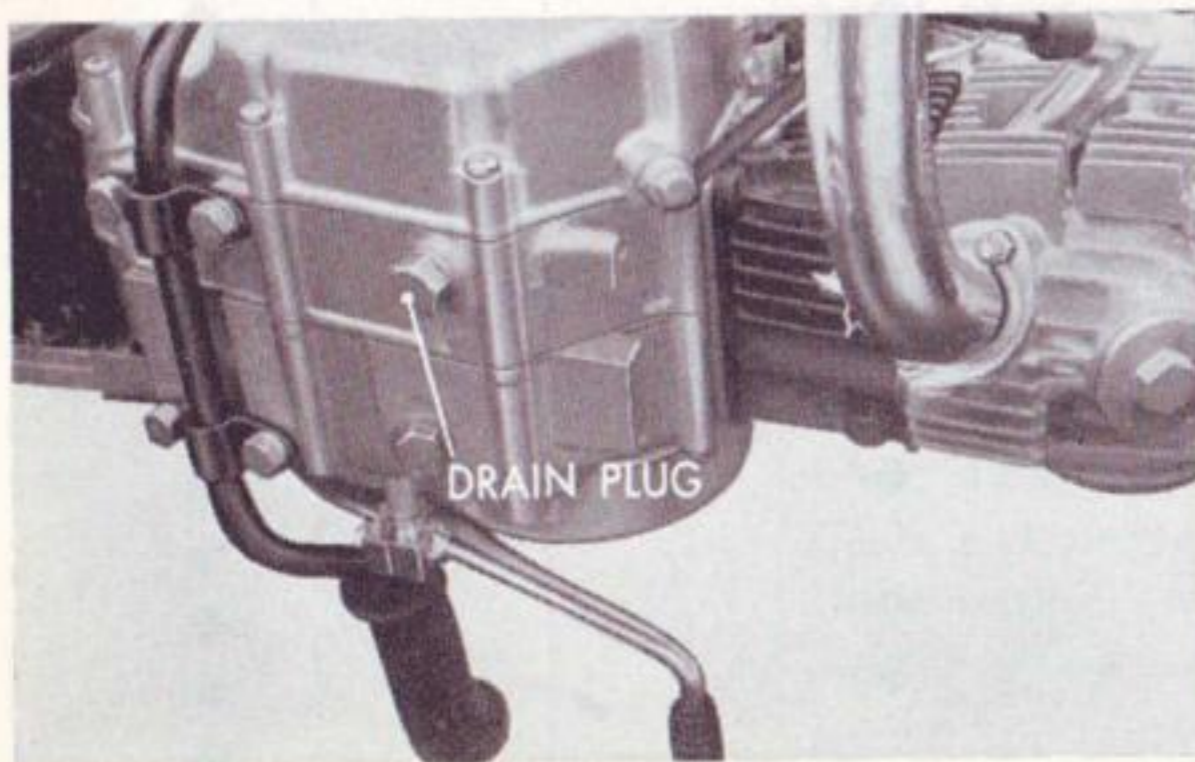

Fig. 20
1. Remove the oil dipstick and the drain plug on the bottom of the engine and drain the oil completely (Fig. 20)